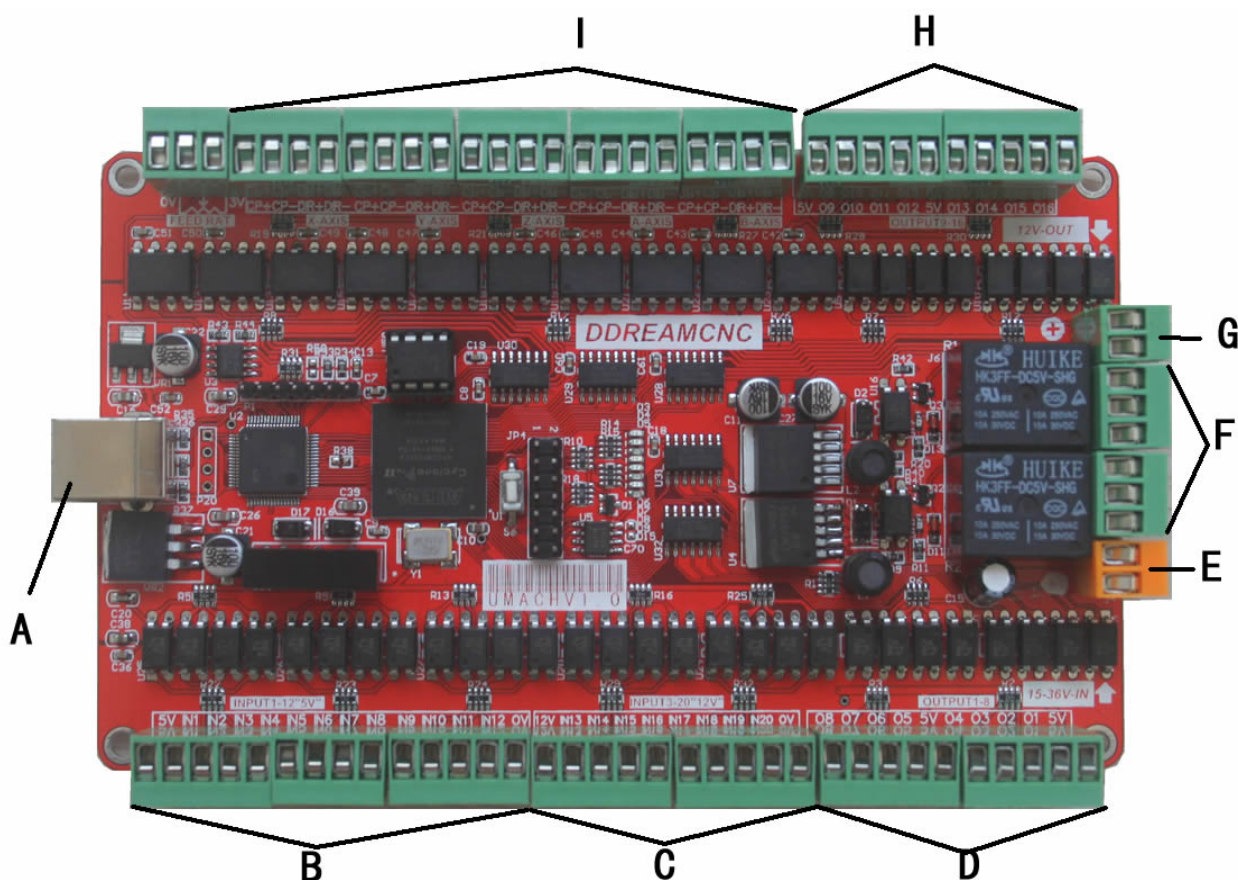
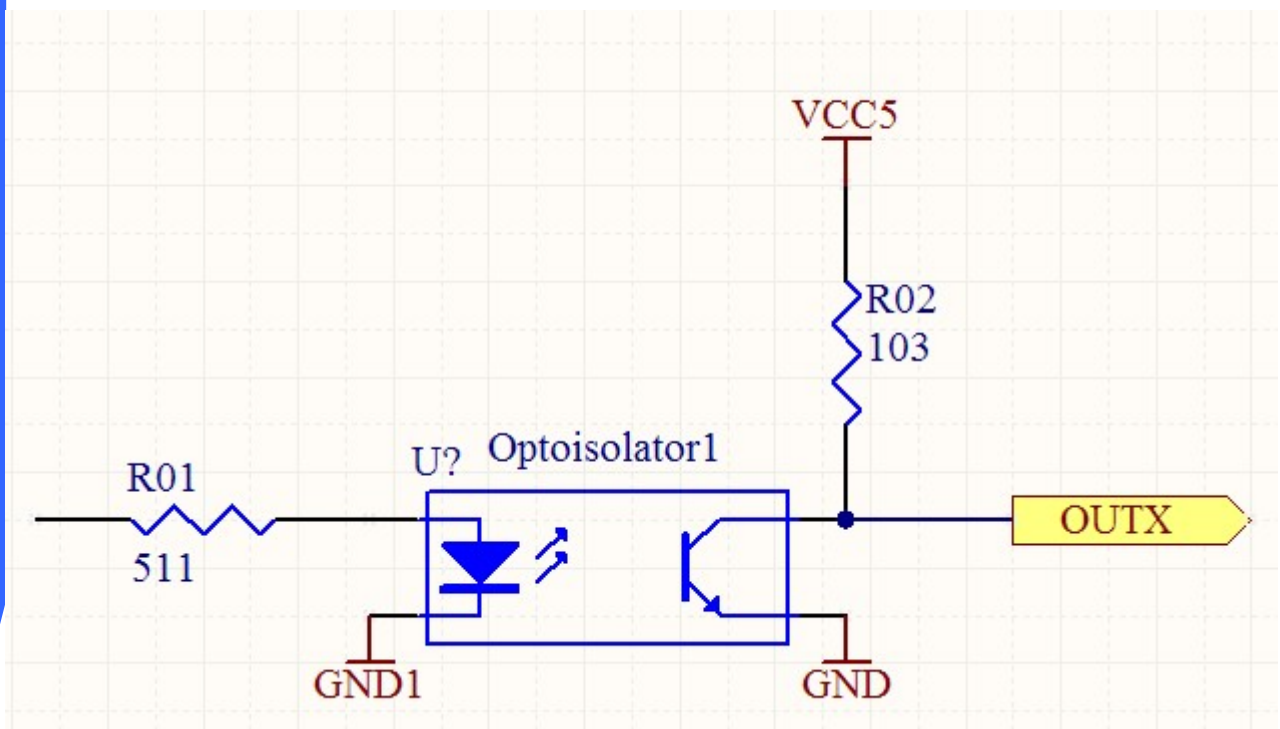
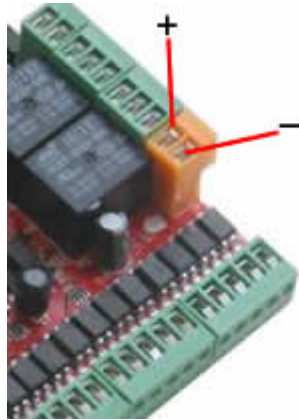

Figure 2-1. 各功能模块定义图
Figure 2-4. General IO output interface internal structure
Figure 2-5. The correct Positive and negative connection of power supply
- D) Low 8 General IO output interface, see as Figure 2-1, Internal structure show as Figure 2-4. If you need to have a greater output current drive capability (More than 2MA) Recommended to use 5V as the output common, then the port can get enough current when it is pulled down.
- E) Yellow terminals is the power input, 15~36VDC, See as the Figure 2-5.
- F) 2 Relay Output, Relay R1 and R2 are set as O17 and O18 in mach3, Each relay's 3 Terminal are CLOSE\COM\OPEN from up to down, see as Figure 2-1.
- H) High 8 General IO output interface, see as Figure 2-1, Internal structure show as Figure 2-4. If you need to have a greater output current drive capability (More than 2MA) Recommended to use 5V as the output common, then the port can get enough current when it is pulled down. **Spindle PWM speed fixed at O16. It can not be set to other port. You can adjust the output PWM waveform via software.**
- L) 5-axis stepper motor control signal output, defined as CK+\CK-\DIR+\DIR-. There are positive pulse, negative pulse, positive direction, negative direction. These port are common positive connection. Therefore, on the board of CK + and DIR + are linked together to 5V. So this board does not support the common negative connection. Wiring method refer to Figure 2-5. This card doesn't have EN signal, Most drives on sale should not connected to the EN signal. It is defined as X \ Y \ Z \ A \ B channel from left to right, see as Figure 2-1.